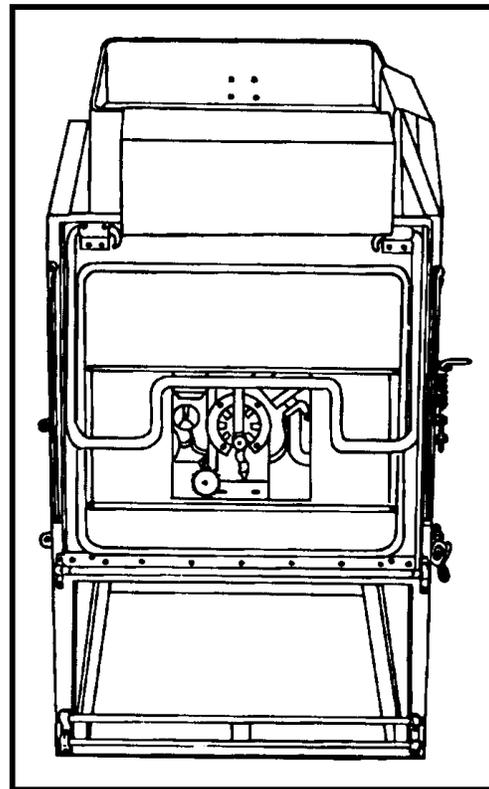

Figure 2-8. M59 Field Range set up for deep-fat frying.
e. Position the M2 burner unit and the baking and roasting pan for deep-fat frying. (See Figure 2-8.)
- (1) Place the M2 burner unit in the top position.
- (2) Close the cabinet door, and open the slide shutters.
- (3) Put the baking and roasting pan on top of the griddle support.
- (4) Fit the long arm protector over the front side of the cabinet and edge of the pan.